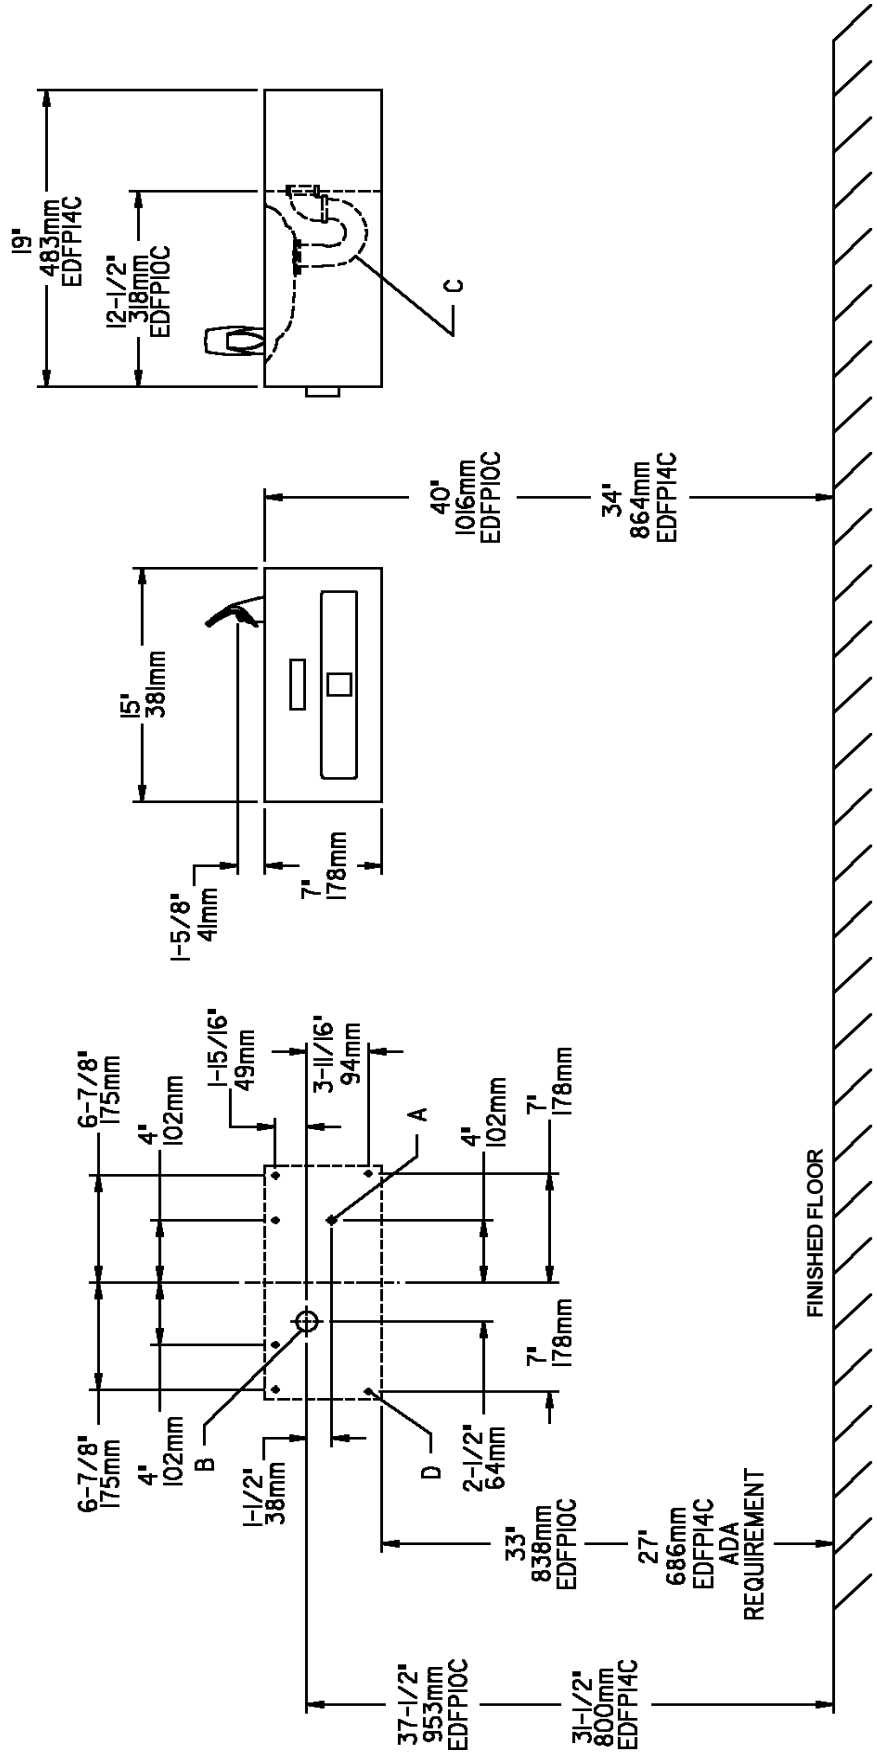

FIG. 1
- Wall** should already be framed for the fountain using the positioning dimensions shown in Figures 1 or 2. Shown dimensions pertain to installation location (framing must support up to 150 lbs. weight). These dimensions are required for compliance with ANSI Standard A117.1/ADA requirements.
- Install** rough-in plumbing as shown in Figures 1 or 2. Waste line should extend a minimum of 2" (51mm) through the back panel. Connecting lines to be unplated copper and thoroughly flushed to remove all foreign matter before connection to fountain. Run the supply water inlet line through the back panel. Install a service stop (not provided). Turn on supply water and flush thoroughly.
- MODELS EDFP10C, EDFP14C:** Secure the fountain to the wall using (6) bolts and washers (not provided). Tighten securely. **MODEL EDFP17C:** Install the fountain to the back panel using (2) bolts and washers (not provided) per each fountain. Next secure the fountain bodies and back panel to the wall using (4) bolts and washers (not provided) per each fountain. Now secure lower right hand corner of back panel using a #8 x 1.50" long bolt (Item 25). Tighten securely.